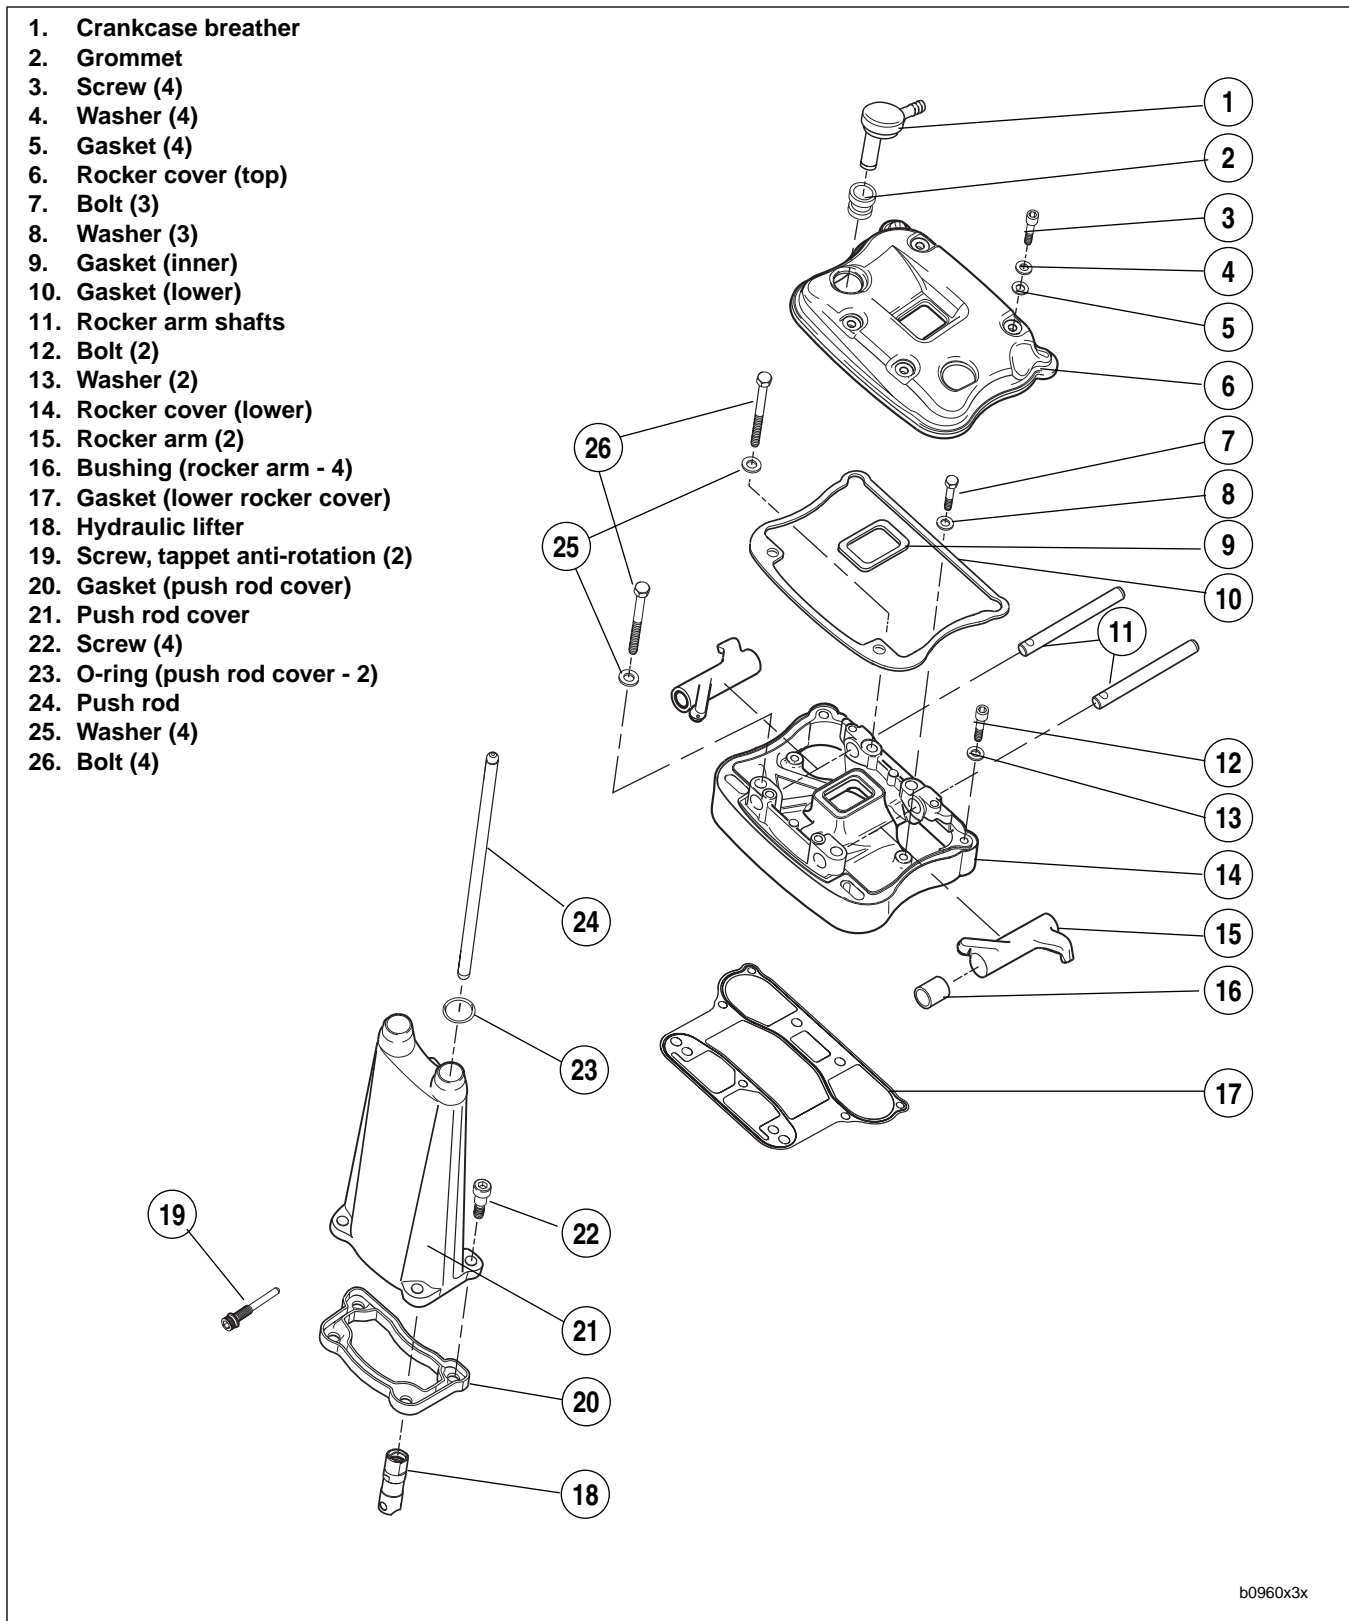
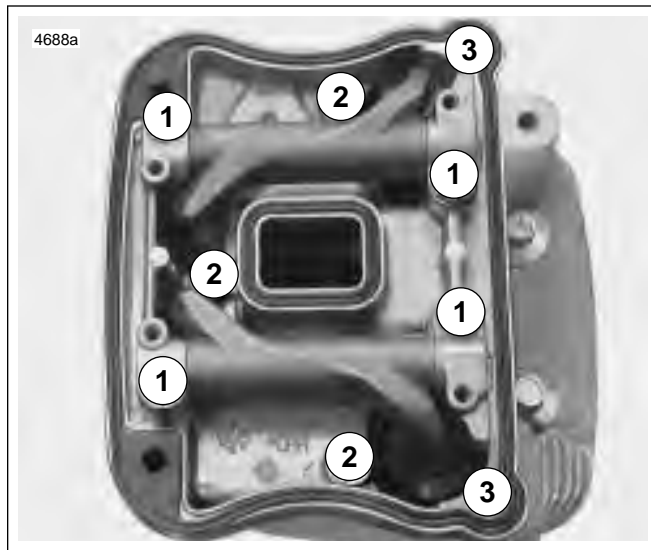

Figure 3-84. Rocker Arm and Push Rod Cover Assemblies
Figure 3-85. Lower Rocker Box Fasteners
9. See Figure 3-85. Install **new** gaskets with the bead facing up. Place lower rocker box assembly (with rocker arms and shafts) into position. Place push rods in rocker arm sockets.
10. See Figure 3-85. Install hardware attaching lower rocker cover to cylinder head in the following order. After loosely installing all fasteners, use a cross pattern on the four large bolts that fasten the lower rocker box to head to tighten and then torque to specifications. This will bleed the tappets. Finish tightening remaining fasteners. Fastener sequences, sizes and torque specifications are listed in Table 3-21.
- Tighten bolts (1) to 18-22 ft-lbs (24-30 Nm).
- Tighten bolts (2) to 135-155 **in-lbs** (15-17.5 Nm).
- Tighten screws (3) to 135-155 **in-lbs** (15-17.5 Nm).
11. See Figure 3-84. Install upper rocker covers.